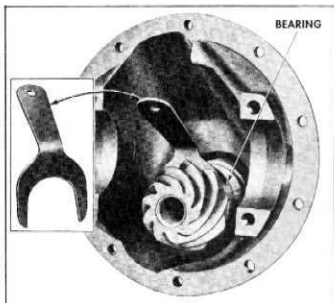

Fig. 16—Checking Pinion to Bearing Clearance
3. Install propeller shaft and pinion assembly, driving it down until bearings are seated in the housing using spacer tool J-4050 to provide proper pinion to bearing clearance (fig. 16).